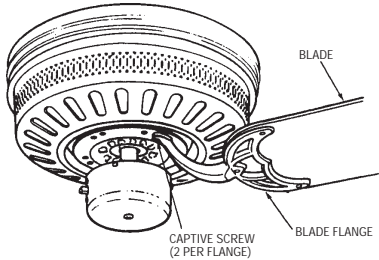

Figure 8
3. Attach one blade assembly to the motor using the captive screws provided on each flange (Figure 8). Make sure the screws are tightened securely. Repeat this procedure for the other four blade assemblies.